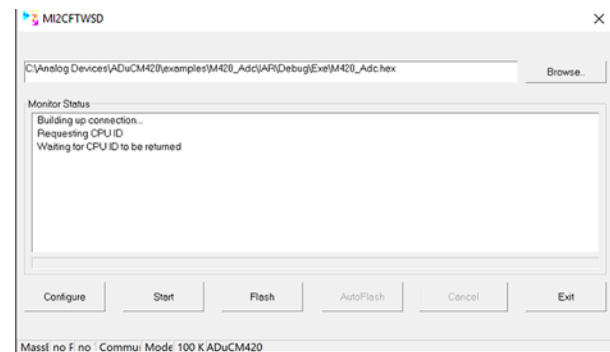

Figure 20. M12CFTWSD GUI
3. The GUI opens, as shown in Figure 20.